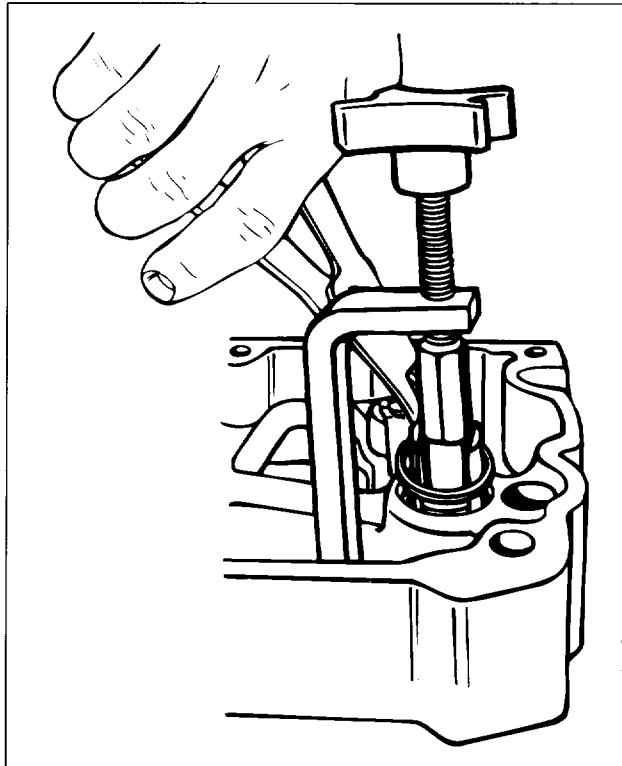

FIG. 23
2. Place the hole in the slave piston removal tool bracket over the slave piston adjusting screw and center the holder between the slave piston legs (Fig. 23).
4. Remove the retaining ring with retaining ring pliers (Fig. 23). Back out the holder until the springs are loose. Remove the tool.